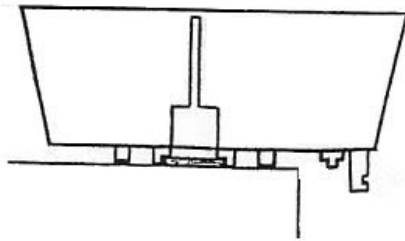

Fig. 2
- 2 Push the bowl on two sides with a gradual pressure till the cooling cylinder will be fully entered in the bowl (see Fig. 2) . This operation will be completed when the bowl basement will touch the metallic structure of the unit. If difficulties are encountered on positioning the bowl please repeat the operation after having wet with water the 'O RING'.